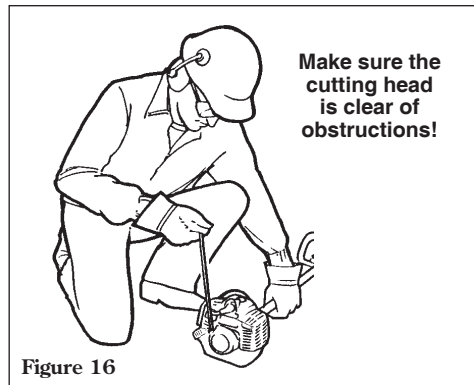

Figure 16
5. While holding the outer tube firmly with one hand, slowly pull the recoil starter handle until resistance is felt, then pull quickly to start the engine. See Figure 16.